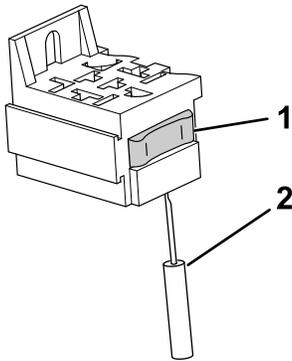

Figure 3
- Use a terminal removal tool to remove the secondary lock from the connector (Figure 3).
3. Install the secondary lock on the connector (Figure 3).